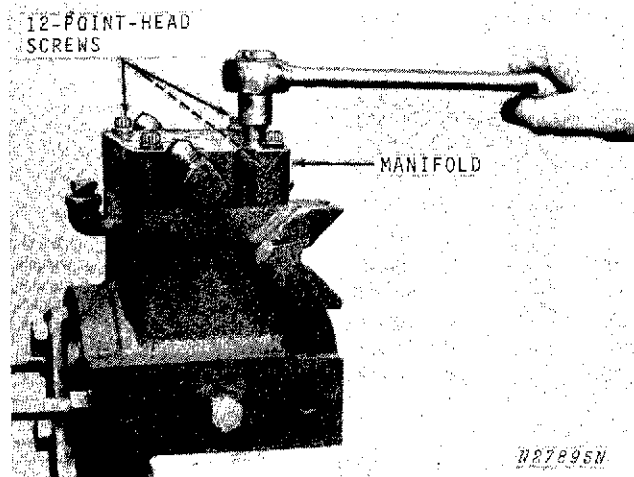

Fig. 7-Removing Actuator Manifold
6. Remove the two 3/8 x 1-1/2-inch 12-point-head screws in the middle of the manifold, Fig. 7.
7. Remove the four 3/8 x 2-inch 12-point-head screws on the outside of the manifold, Fig. 7.